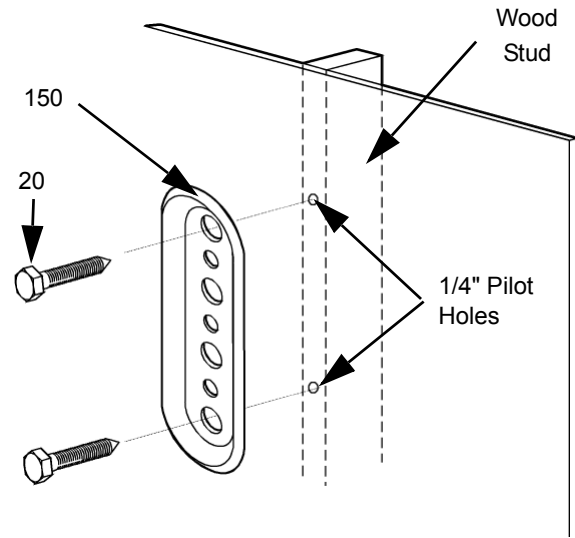

Figure 2: Secure Wall Bracket
2. Using the wall bracket (150) as a template, mark the two pilot holes for mounting the wall bracket. (see Figure 2)